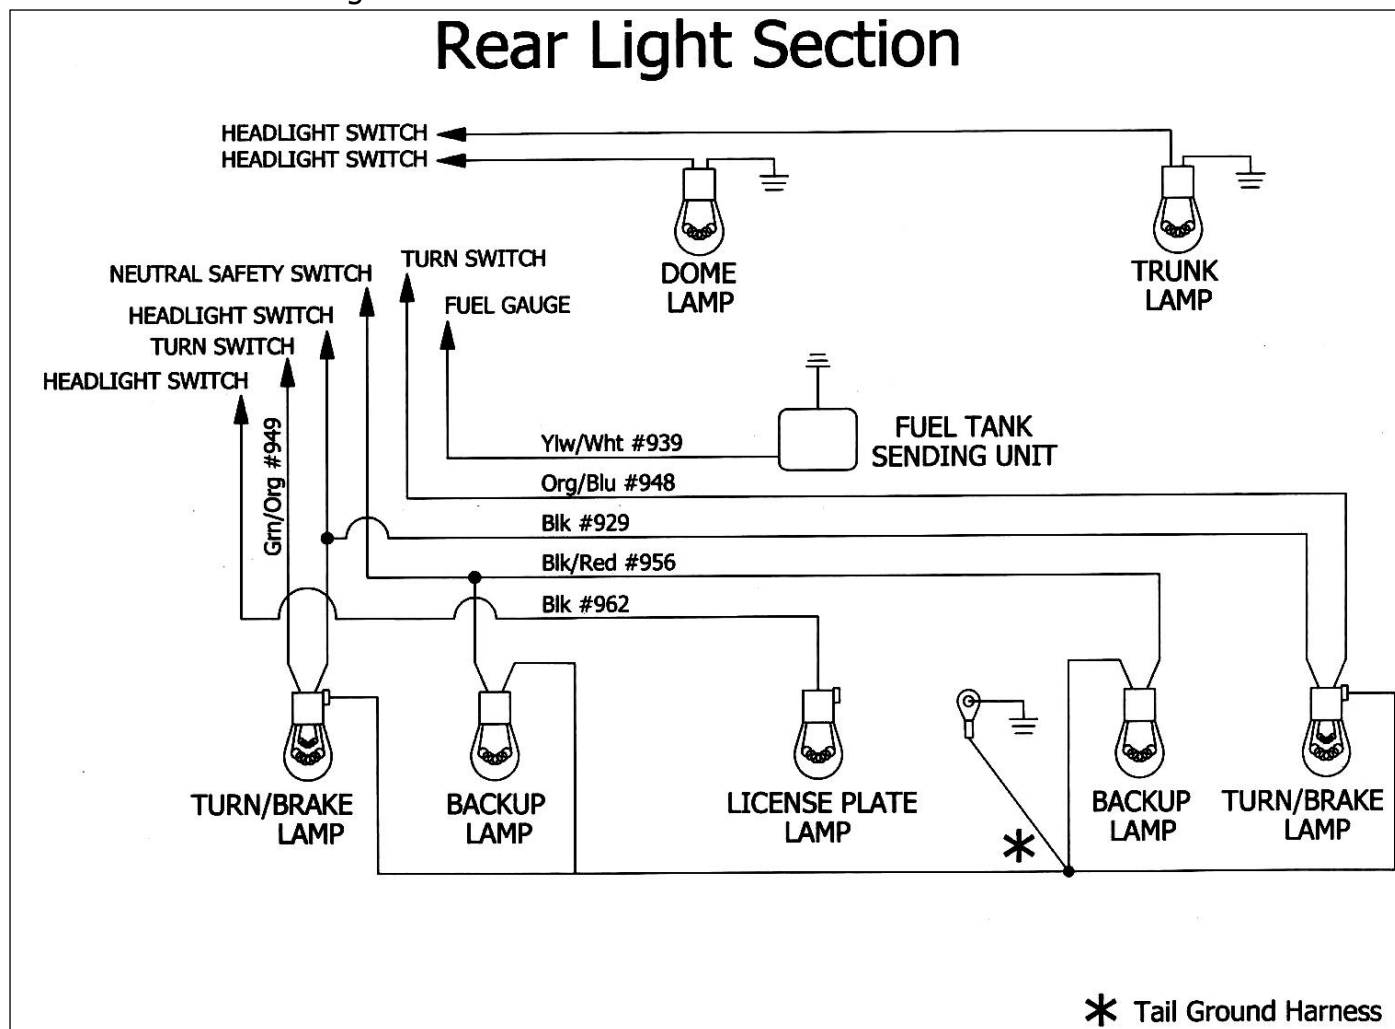

Figure 7-10 Rear Light Section and Dome Light
7.5.2 Locate and connect the Tail Ground Harness as shown in Figure 7-10. The wires in this section are to be routed in the same location as the stock harness. Use the metal tabs under the rear trunk opening lip to secure the harness.